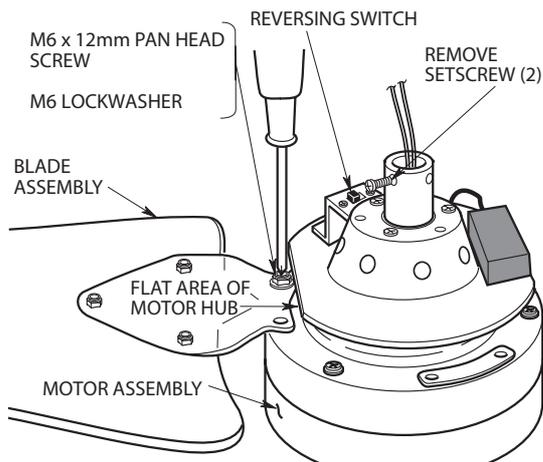

Figure 1
1. Rotate the motor hub so the notched area is above the screw hole in the motor hub. Install one blade assembly on the top of the motor assembly using two M6 x 12mm pan head screws and two M6 lockwashers (supplied) (Figure 1). Repeat this procedure for the remaining two blade assemblies.
2. Remove the two setscrews from the top of the motor coupler (Figure 1). Retain the setscrews for future use.